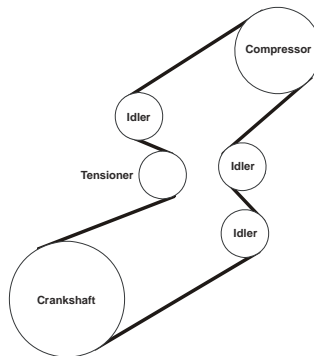

Figure 5.5
- Install the OEM belt, then the VR belt (Figure 5.5). Visually check belt alignment to make sure that it is correct.